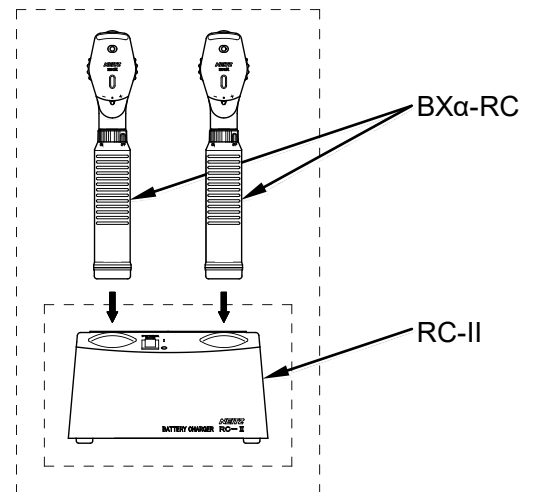

Fig. 3.1
- 2) Insert the Handle of the unlit BXα-RC into the Charging Port of the RC-II (see Fig. 3.1)